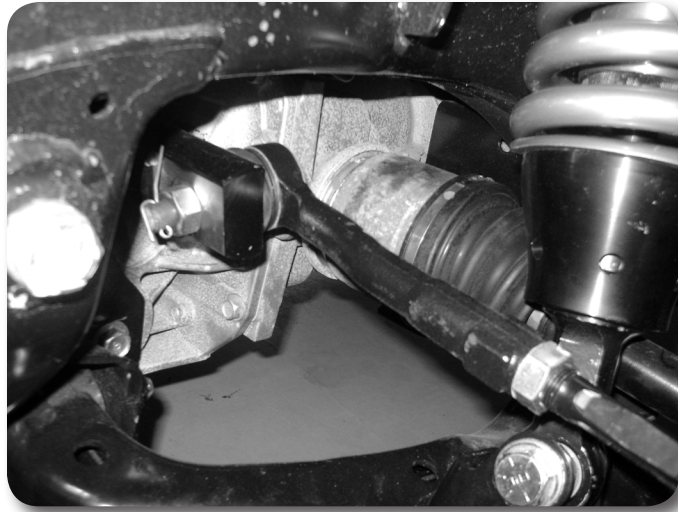

Figure 10
15. Install inner tie rod ends with factory nuts **Figure 10**. Tighten to factory specifications.